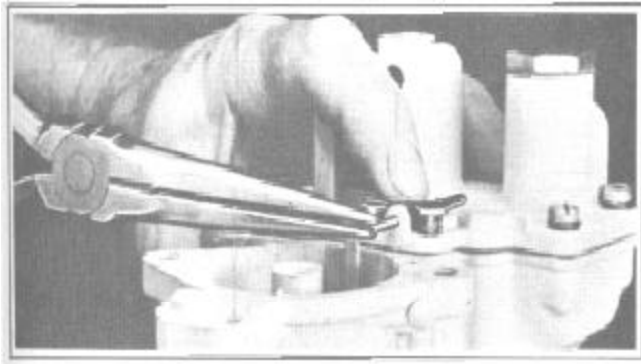

FIGURE 43
17. Install anti-percolator cap and rocker arm assembly and spring, Figure 43. (Make certain that leather is in good condition and that pin is not worn.)